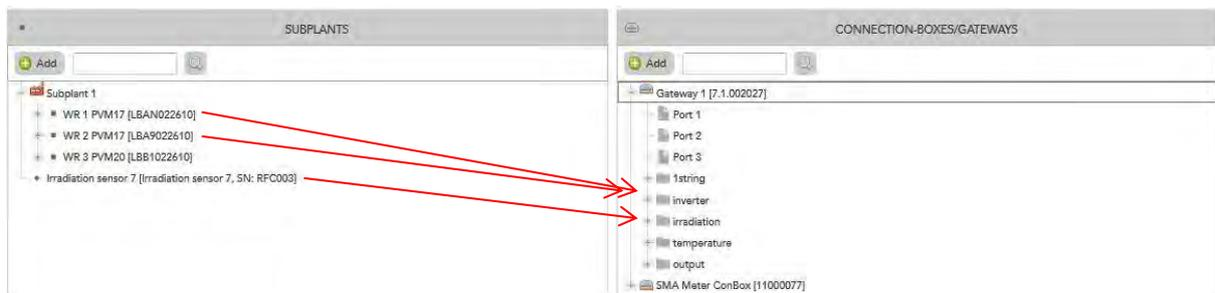

Figure 58: Assigning inverters and environmental sensors via drag & drop.
- Inverters and environment sensors have to be assigned to the gateway by drag & drop to "inverter", "irradiation" etc. of the Gateway as shown in Figure 58.